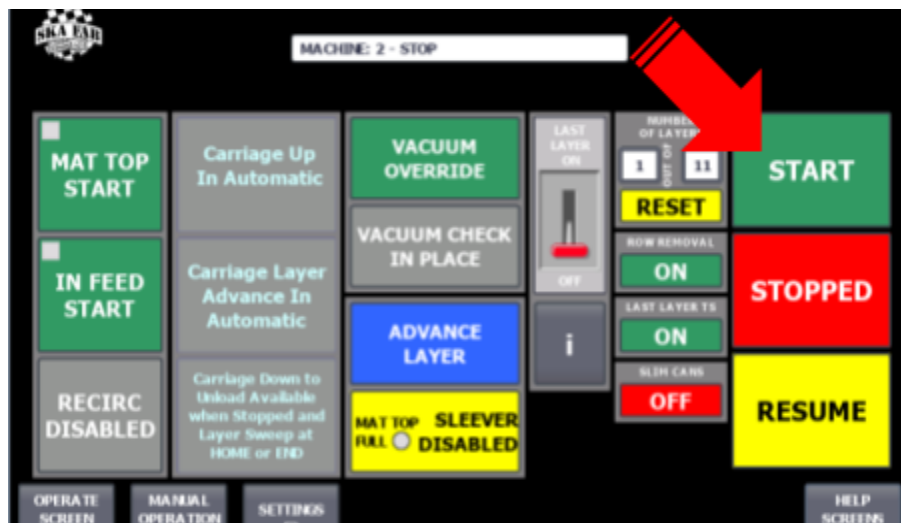

Fig. 14: HMI Screen – Auto Sequence Start
1. Press the START button (Fig. 14) on the HMI.